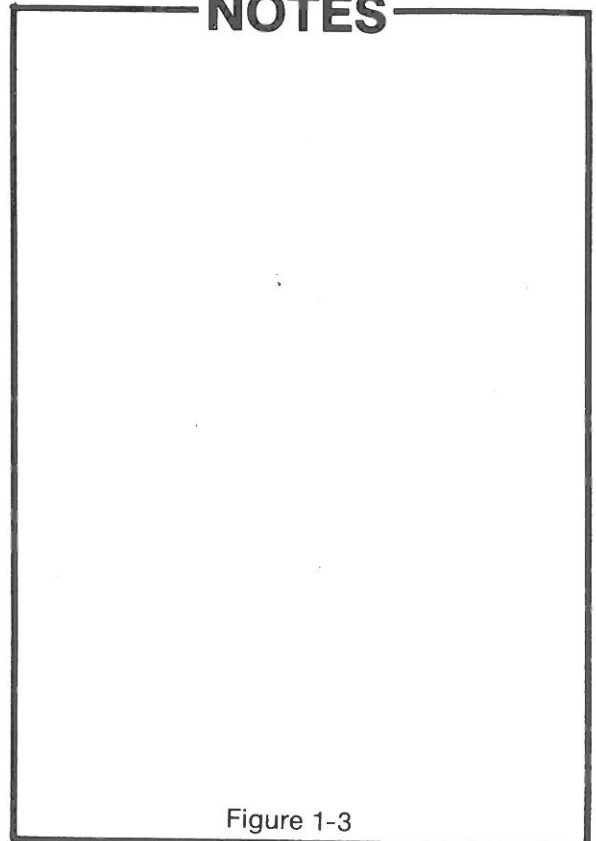

Figure 1-3
3. When the mast assembly is pivoted out 90 degrees and shifted to the right, the truck operates as a side loader. (Figure 1-3).